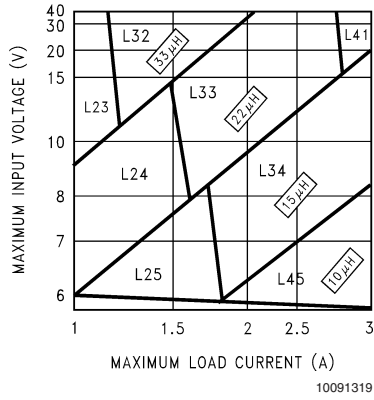
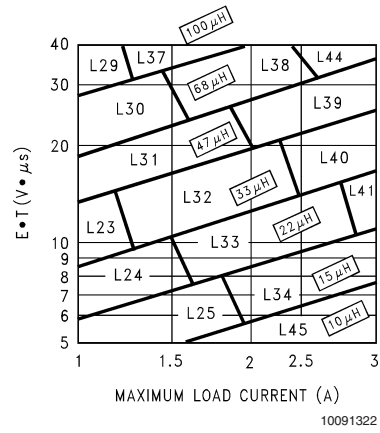

FIGURE 3. LM2673-3.3
FIGURE 6. LM2673-ADJ
Step 3: Determine the inductor required by using one of the four nomographs, *Figure 3* through *Figure 6*. Table 1 provides a specific manufacturer and part number for the inductor.
Step 5: Determine an input capacitor from Table 4 for fixed output voltage applications. Use Table 2 to find the specific capacitor type. For adjustable output circuits select a capacitor from Table 2 with a sufficient working voltage (WV) rating greater than $V_{in\ max}$, and an rms current rating greater than one-half the maximum load current (2 or more capacitors in parallel may be required).
Step 3: Use the nomograph for the 3.3V device, *Figure 3*. The intersection of the 16V horizontal line (V_{in max}) and the 2.5A vertical line (I_{load max}) indicates that L33, a 22μH inductor, is required.
Step 3: To use the nomograph for the adjustable device, *Figure 6*, requires a calculation of the inductor Volt•microsecond constant (E•T expressed in V•μS) from the following formula:
Using *Figure 6*, the intersection of $27V \cdot \mu s$ horizontally and the 2A vertical line (I_{load} max) indicates that L38, a 68 μH inductor, should be used.
Important Note: When using the adjustable device in low voltage applications (less than 3V output), if the nomograph, *Figure 6*, selects an inductance of 22 μH or less, Table 6 does not provide an output capacitor solution. With these conditions the number of output capacitors required for stable operation becomes impractical. It is recommended to use either a 33 μH or 47 μH inductor and the output capacitors from Table 6.